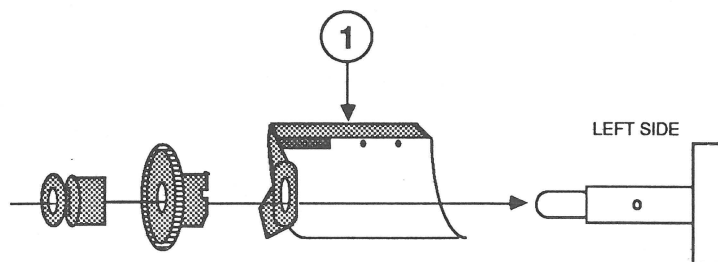

FIGURE 5
- If there **is** a paper-empty plate (Figure 5, #1), the mechanical paper sensor is installed.